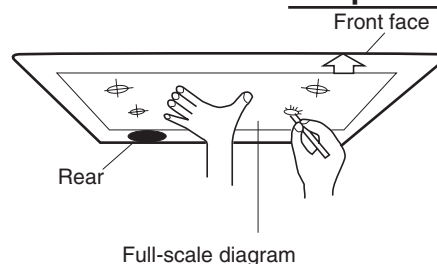

Fig. 1-50
- (1) Place the full-scale diagram (supplied) on the ceiling at the spot where you want to install the indoor unit. Use a pencil to mark the drill holes. (Fig. 1-50).